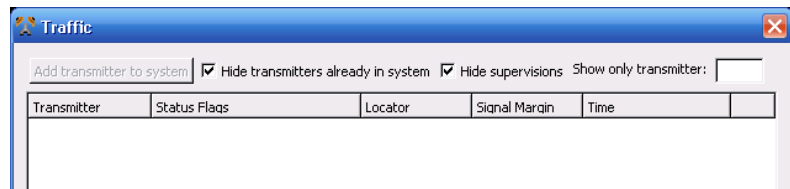

Figure 16: FA Traffic Window
2. Click the **Menu** button in the lower left corner of the Event Monitor and select **FA Traffic** from the menu. When the **FA Traffic Window** appears as shown in Figure 16, check the **Hide transmitters already in system** and the **Hide supervisions** boxes.